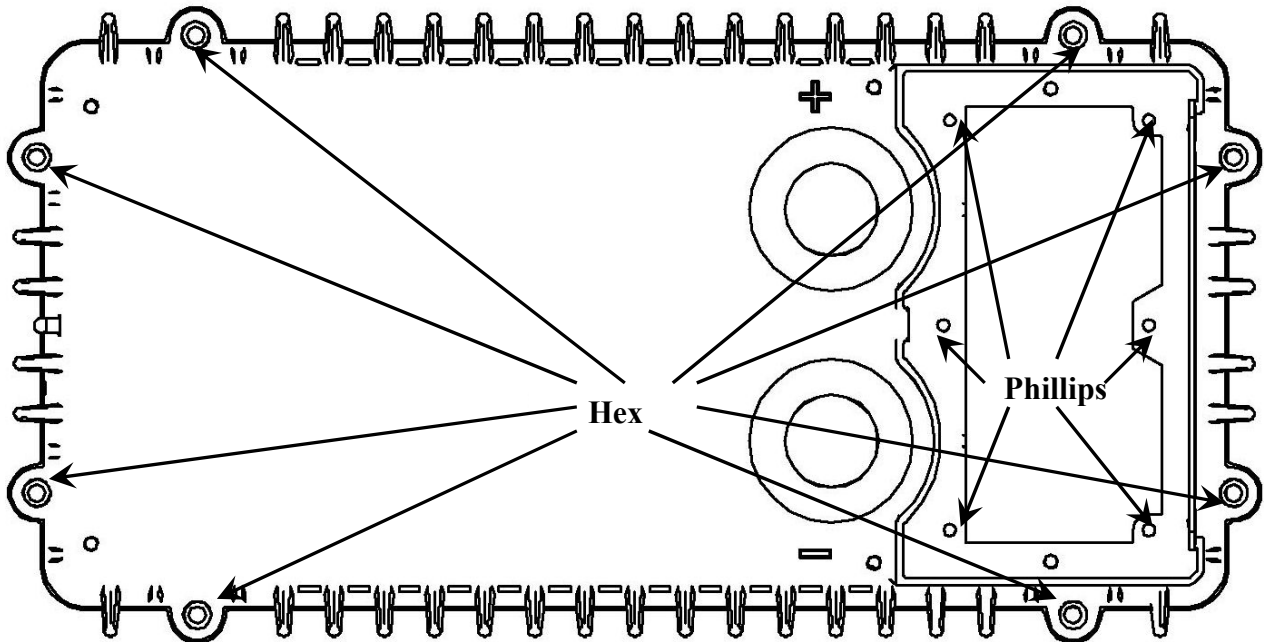

Figure 2
Use a #2 Phillips tip screwdriver and remove the six screws inside the AC wiring compartment (Figure 2, Phillips). These are 6-32 x 1/2" stainless steel pan head screws (In case you lose any). Before getting into the unit you need to make sure you do not have a static charge built up on you or your clothes. The safest way to accomplish this is to stand naked in a mud puddle while disassembling the inverter. Another method would be to make sure you are wearing only 100% cotton clothes. Cotton does not build up a static charge. In addition, ground yourself by touching something like a water pipe, electrical ground conductor etc. in order to bleed off any charge. Static can destroy boards. The form of static that is harmful is much less than what actually makes sparks. 30 volts can damage parts, so don't take chances and don't handle any boards unless static control measures have been taken.
Pay attention to this one or you'll hate yourself later! Use a 4mm Allen wrench (included) to remove the 8 stainless steel socket head cap screws that connect the top to the bottom casting (Figure 2, Hex). The FX's fan is mounted to the top cover. It plugs into the FET board. If you pull the top cover off without thinking, it will rip the wires right out of the connector. (This is where you will start swearing and your customer will become alarmed!) If this happens, you have two choices; (1) get new Molex crimp terminals and the special crimp tool to correctly fix the problem, or (2) after replacing the fan, solder the fan wires onto the sockets that are still attached to the mating connector on the FET board. Hint: cut some of the plastic away first so you can get to the pins. The red wire goes towards the bottom casting (the latch side of the connector). Figure 3 gives you an idea how long the wires are. There are two small O-rings that fit into slots of the battery terminals. If they aren't in their slots, they may be stuck to the underside of the top cover. Remove these small O-rings so they don't get lost. There is also a very large O-ring that travels the perimeter of the chassis. This doesn't need to be removed but if it comes out it should be reinstalled before the top cover is put back on. If this O-ring is too small, it can be stretched. There also is a rectangular gasket in the AC and AUX wiring section that prevents water from entering the FX. This gasket may or may not be attached to the AC board. If the gasket isn't attached, check the underside of the FX. The last thing that should be noted is the square piece of "Nomex" attached to the underside of the top cover (see Figure 3). Sometimes this piece falls out or is loose. If this is the case please use some silicone to glue it back in place. Make sure it is fairly dry before attaching the top cover.